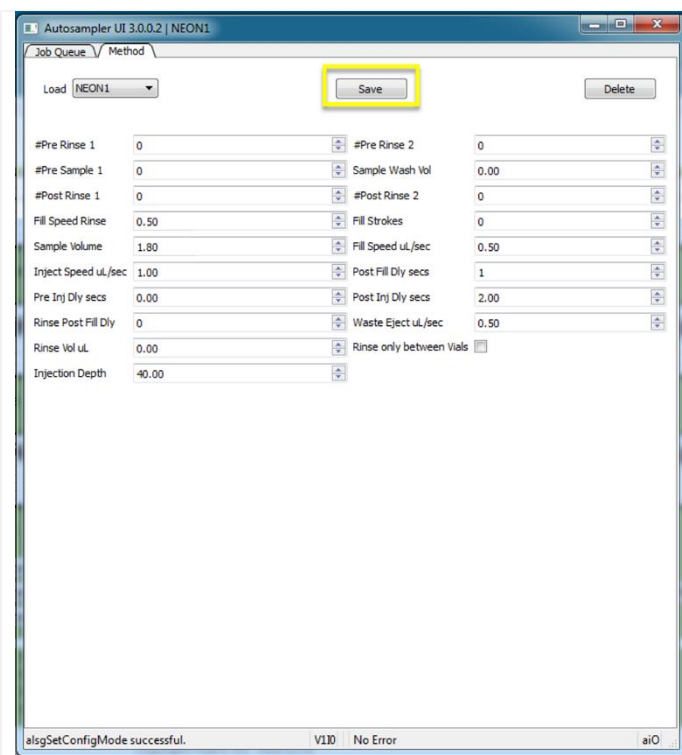

Figure 175. Save Adjustment under NEON1 Configuration.
STEP 16 | Save adjustment to Sample Volume (uL) in the NEON1 configuration (**Figure 175**).